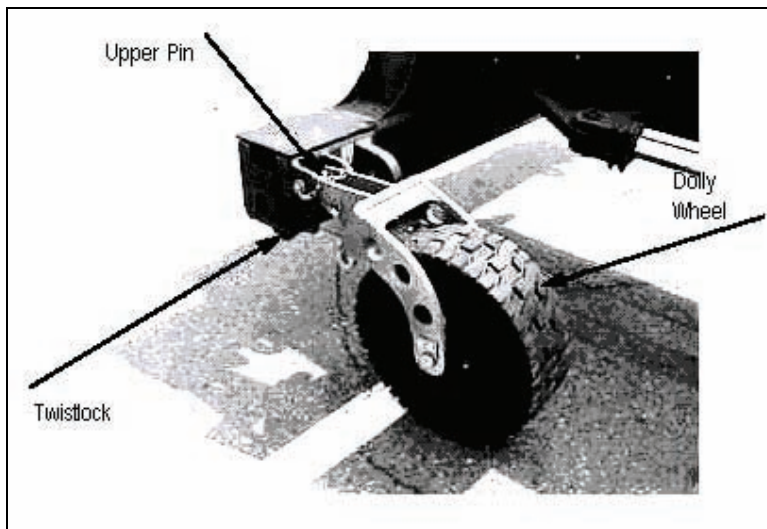
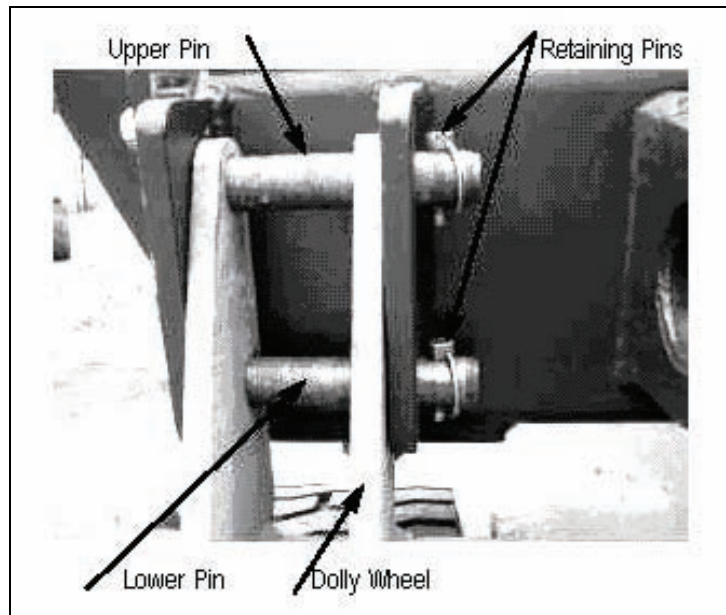

Figure 3-150. Installing Dolly Wheel to Tophandler
Figure 3-151. Installing Upper Pin From Outside of Tophandler
- j. Install each dolly wheel to tophandler (see Figure 3-150).
- (1) Place dolly wheel so that tire will be under the twistlock when wheel is lifted.
- (2) Install upper pin from outside of tophandler. Lock pin in position with retaining pin (see Figure 3-151).
- (3) Remove lower pin from dolly wheel and set aside.